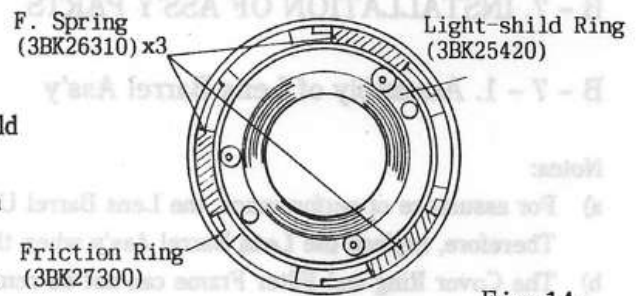

Fig.14
- 2) Set the F. Spring (3BK26310) \times 3 in the Light - shield Ring. (See Fig.14)